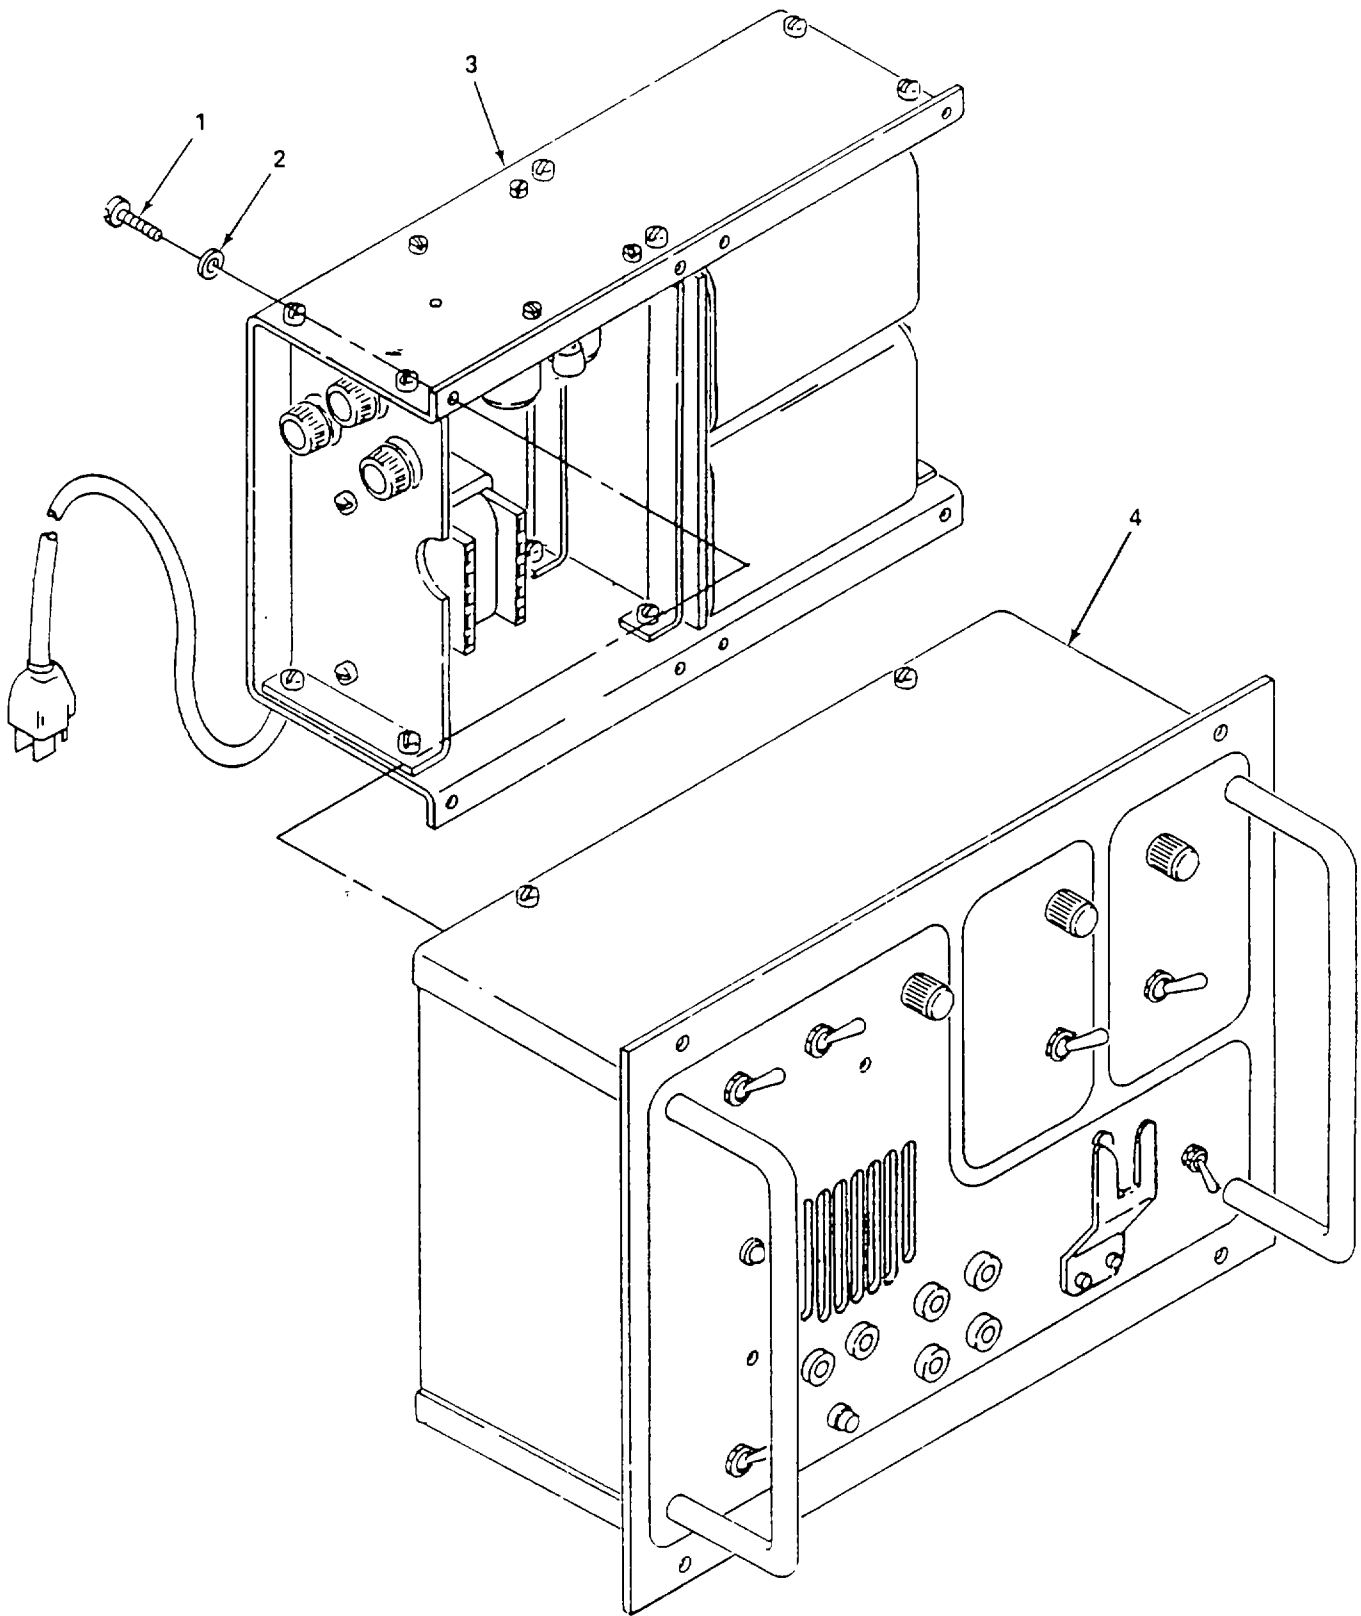

Figure 5-41. Battery Card and Case, Replace.
a. Replace. (figure 5-41)
- (1) Remove eight screws (1) and washers (2) and separate battery card and case (3) from housing (4).
- (2) Tag and disconnect wires from battery card and case (3) and remove case.
- (3) Position battery card and case (3) near housing (4) and connect wires to battery card and case.
- (4) Install battery card and case (3) on housing (4) and secure with eight screws (1) and washers (2).